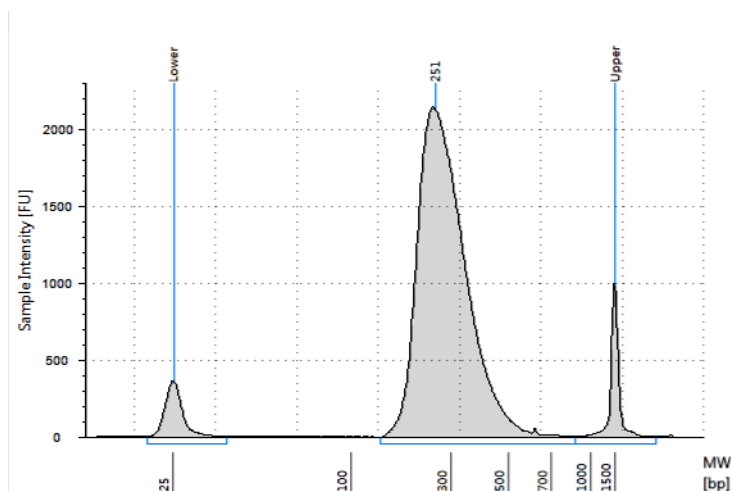

Figure 5 Analysis of amplified library DNA using a D1000 ScreenTape.
- 3 Verify that the electropherogram shows a distribution with a DNA fragment size peak of approximately 225 to 275 bp. Determine the concentration of the library DNA by integrating under the peak. A sample electropherogram is shown in Figure 5.